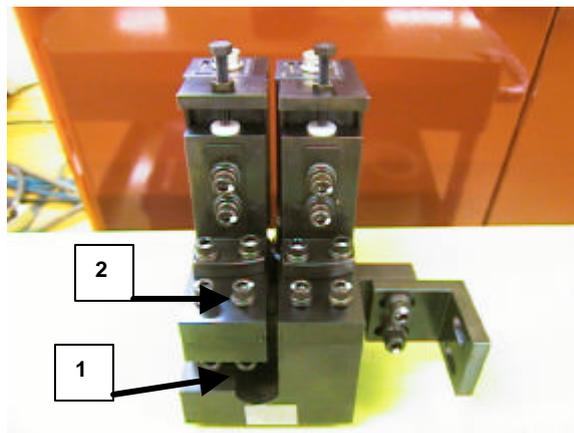

Figure 7
8. To adjust the narrow camera in the Y-direction, loosen the Y-axis positioning bolts (Item 1 in figure 7) and adjust the camera position accordingly. Once the adjustment is complete, tighten the bolts with the required amount of torque (13N.m).
9. To adjust the narrow camera in the X-direction, loosen the X-axis positioning bolts (Item 2 in figure 7) and adjust the camera position accordingly. Once the adjustment is complete tighten the bolts with the required amount of torque (8N.m).